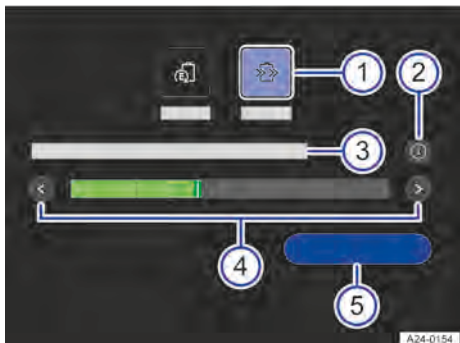

Fig. 93 Infotainment system: function buttons and displays for Auto EV operating mode.
1. Select **Auto EV** operating mode → Fig. 93 ①.
2. Tap the **Set manually** function button → Fig. 93 ⑤.
3. To set the charge level to be reserved, move the control using the arrows → Fig. 93 ④.
1. Tap **i** in the operating mode selection → Fig. 93 ②.